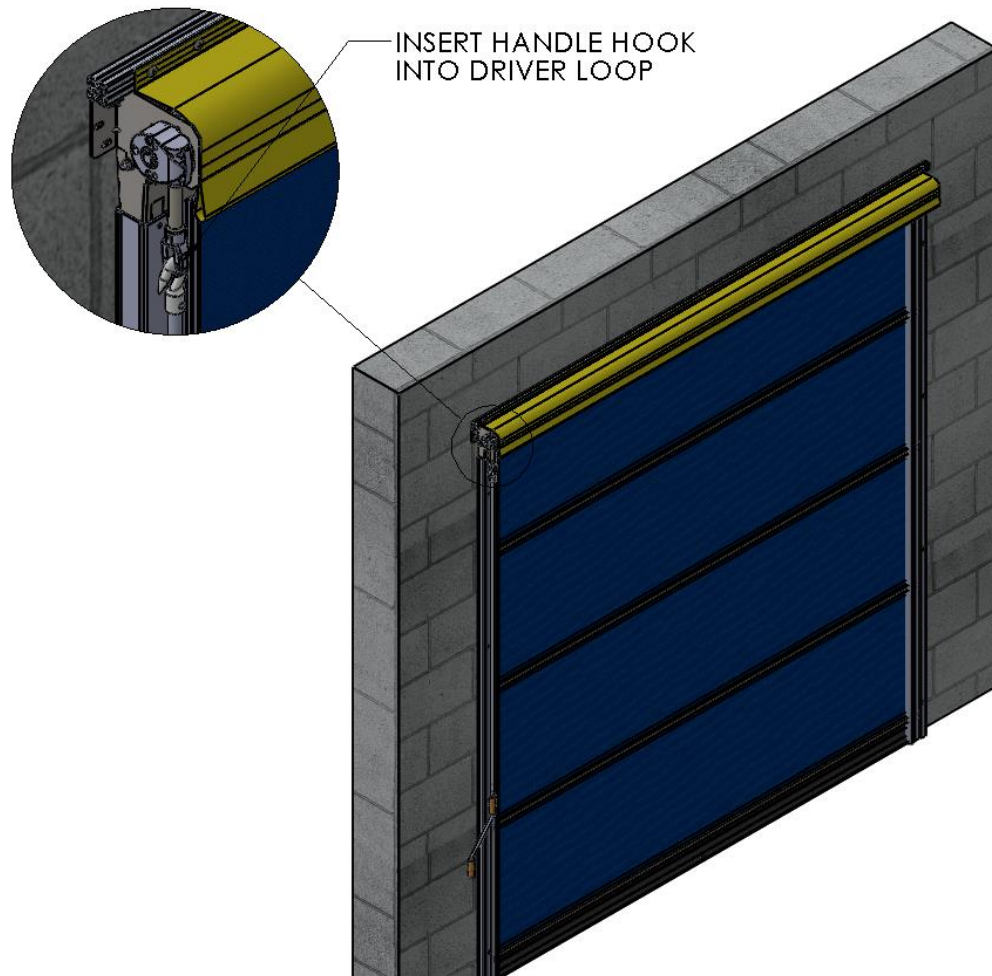

Figure 8 INSTALL CRANK HANDLE
3. Insert the handle's hook into the loop of the Driver Assembly. (Figure 8 INSTALL CRANK HANDLE)